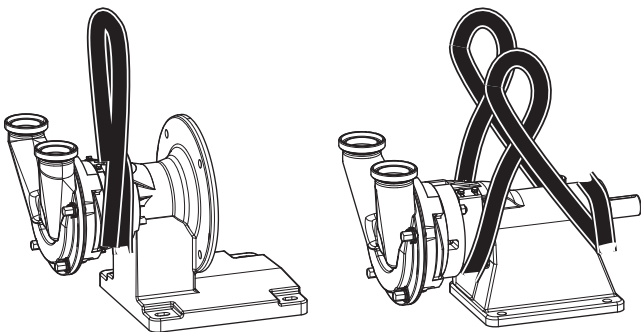

Fig. 68 Moving with crane illustrated using the KF and L
1. Wrap the round sling twice around the lantern neck (see Fig. 68, "Moving with crane illustrated using the KF and L").
1. Wrap the round sling twice around the back end of the bearing block (see Fig. 68, "Moving with crane illustrated using the KF and L").